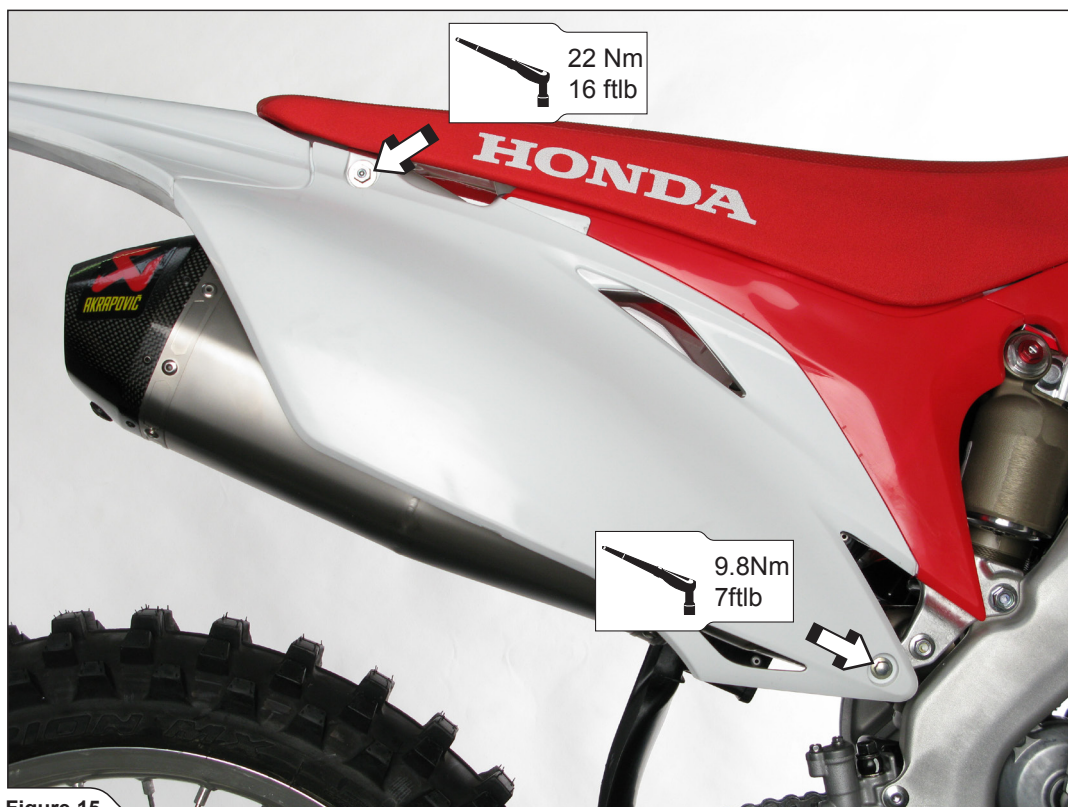

Figure 15
9. Reattach the stock right side panel and tighten the marked stock bolts to a specified torques (**Figure 15**).